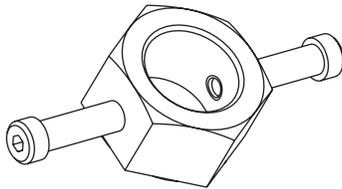

Figure 8: Wing nut
- Place the clamp plate on the three stud extenders and thread the wing nuts (Figure 8) onto the stud extenders. Make sure the wheel extender subassembly is firmly seated on the face of the wheel and lightly tighten each wing nut, just enough to hold the wheel extender subassembly in place against the face of the wheel.